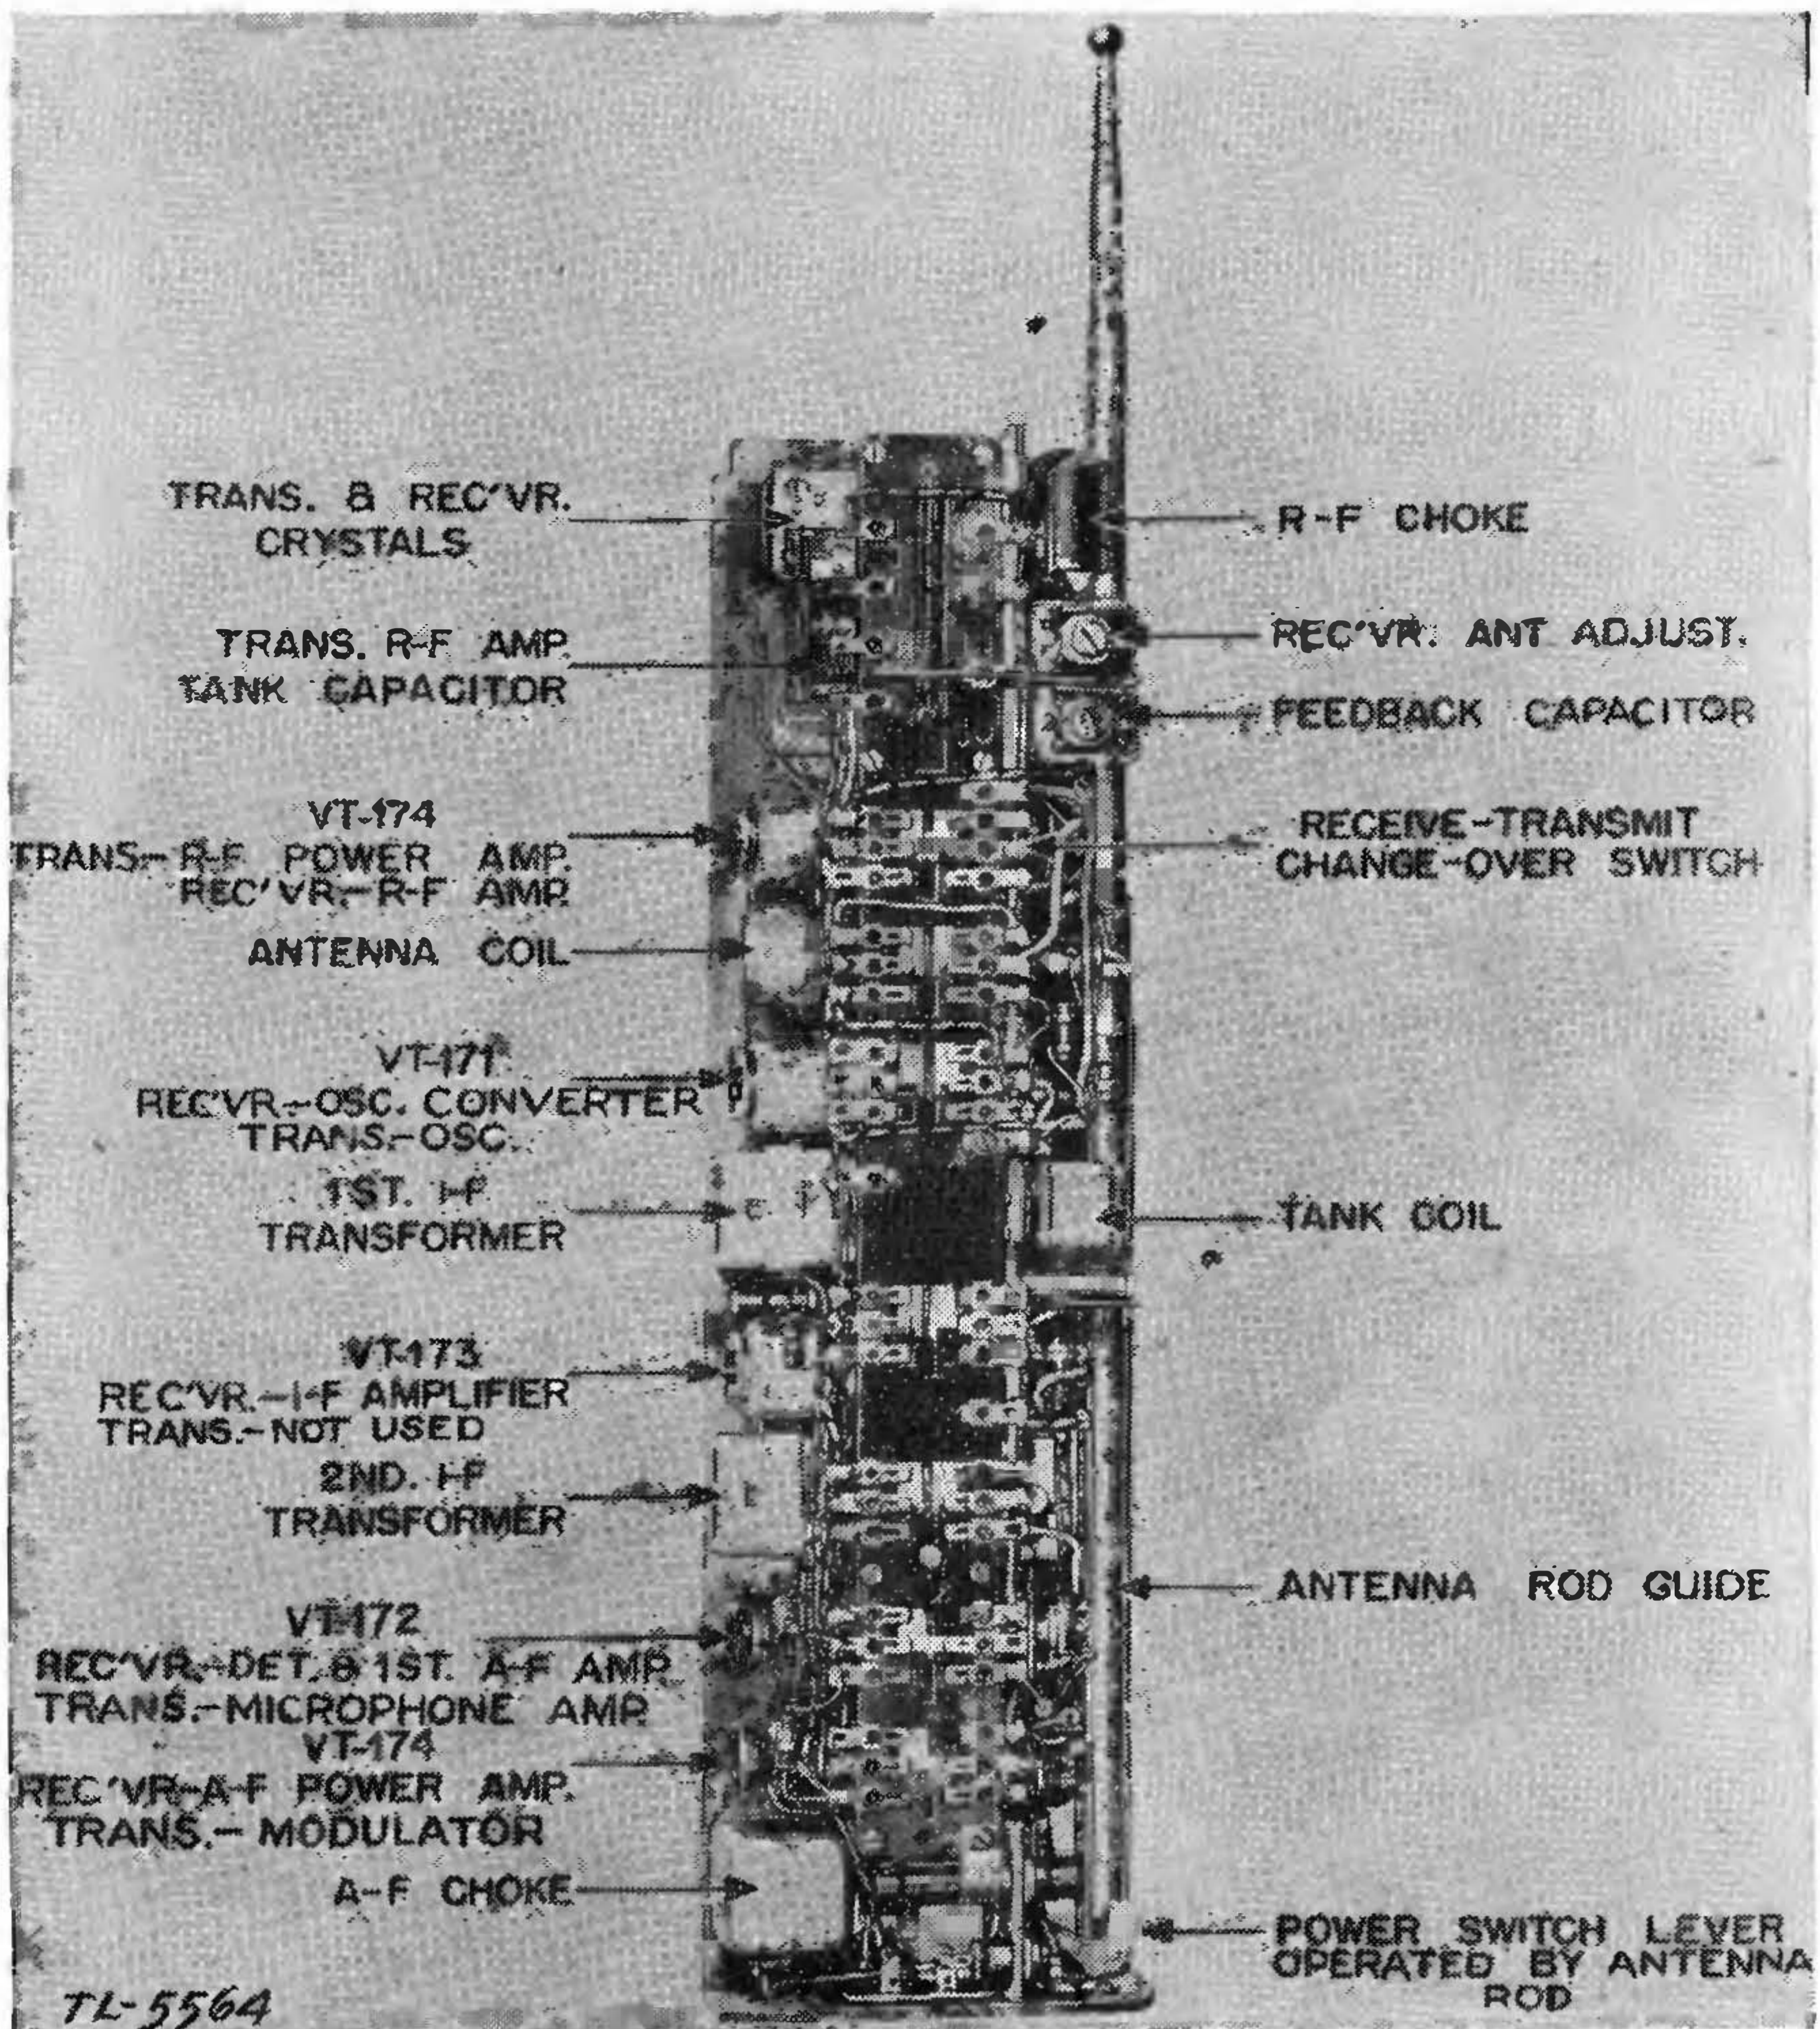

FIGURE 10.—Radio receiver and transmitter BC-611-(\*)—front view of chassis.
**41. Replacement of tubes.**—Remove the chassis from the housing. To do this, unfasten the bottom cover of the housing and remove the batteries. Disconnect the microphone and earphone plugs from the terminal board on the end of the chassis by gently pulling out. Plugs and jacks are color coded with small spots of color: green for microphone and red for earphone. Remove the mounting screw in the top cover of the housing, and the chassis can be slid out of the bottom of the housing. Lift the tube retainer bracket at the top of the tube and remove the shield, if there is one. Insert a narrow rod through the bottom center of the tube socket and gently force the tube out. A small narrow-bladed screw driver will be found useful for this purpose. When replacing the tube, be sure it is the right type, that the base of the tube is so turned that the pins fit into the socket properly and are straight. The wide space between pins 1 and 7 of the tube can be used as a guide to line the tube with the socket. (See fig. 10.)
**55. Removal and replacement of coils and crystals.—***a. Antenna coil.*—Remove the plug-in antenna coil by carefully lifting it out of its socket. See figure 10 for its location. In its place insert another coil of the desired frequency.
*c. Crystals.*—The crystals are mounted in plug-in type holders. (See fig. 10.) To remove a crystal, lift up the clamp located on top of the crystal holder. This clamp pivots on a stud fastened to the chassis. Place a small screw driver between the crystal holder and the socket and gently pry it up. To remove the other crystal holder, the same procedure is followed. Select a transmitter and a receiver crystal holder of the desired frequency (the frequency of the transmitter crystal will be the same as that of the coils, while the receiver crystal will be 455 kc higher in frequency). Insert the receiver crystal holder in the crystal socket marked REC. It should be inserted so that the frequency printed on the metal side faces out and the
**70. Changing coils and crystals.—***a. Antenna coil.*—Remove the plug-in antenna coil by carefully lifting it out of its socket. See figure 10 for its location. In its place insert another coil of the desired frequency.
*c. Crystals.*—The crystals are mounted in plug-in type holders. (See fig. 10.) To remove a crystal, lift up the clamp located on top of the crystal holder. This clamp pivots on a stud fastened to the chassis. Place a small screw driver between the crystal holder and the socket and gently pry it up. To remove the other crystal holder, the same procedure is followed. Select a transmitter and a receiver crystal holder of the desired frequency. (The frequency of the trans-